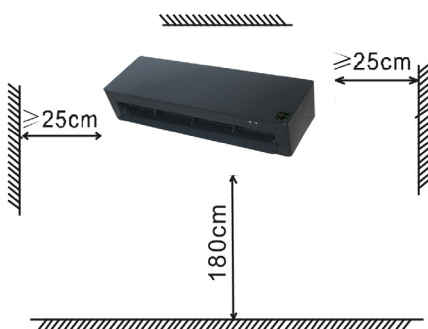

Figure 1
1. Find a space to install the fan heater (See Figure 1).